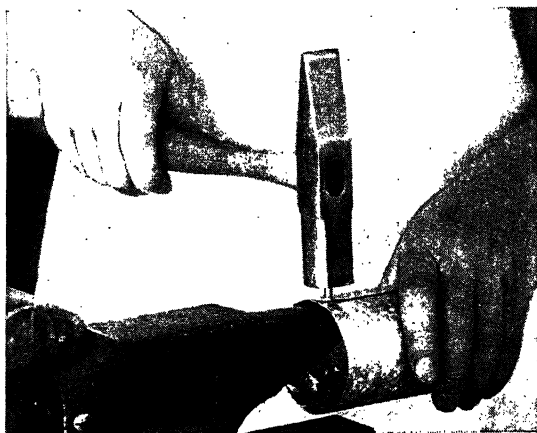

Fig. 87. Striking a rivet to upset it and flattening it for a head
*First:* Strike the rivet several times with a riveting hammer to upset it (see Fig. 87). These blows will spread the rivet stem and cause it to fill the hole. Only a few blows are necessary to upset the rivet and hold